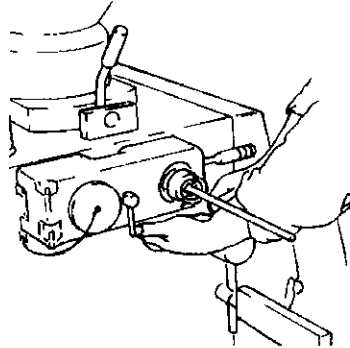

Fig. 5-7
- Lock the linking head by pulling on the locking lever on the underside of the linking gear (Fig. 5-7).